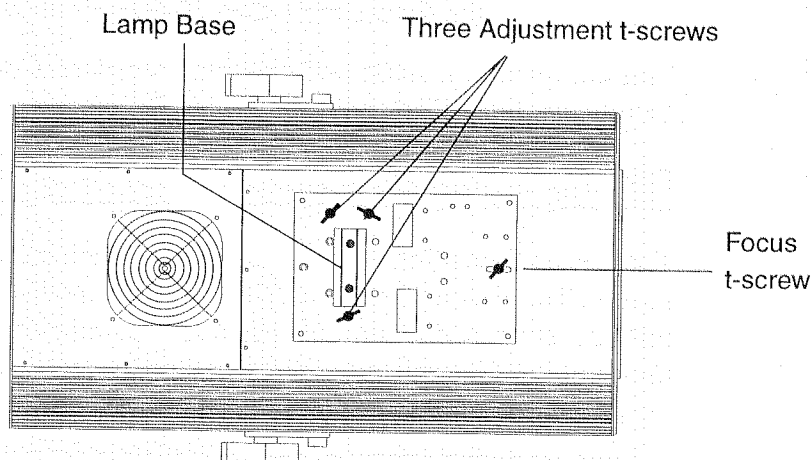

Figure 2.24. emulator Fixture Bottom Side — Locating Focus T-Screw
13. Next, locate the *focus t-screw* on the underside of the fixture towards the front of the unit. Refer to Figure 2.24.